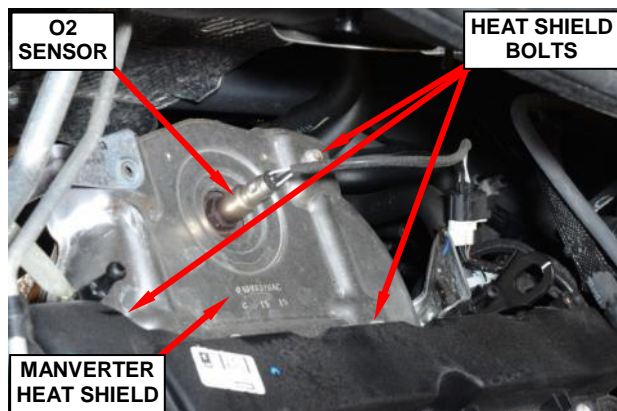

Figure 43 – Manverter Heat Shield
- a. Remove and discard the 1/1 upstream O2 sensor (Figure 43).
- b. Remove and save the remaining three heat shield bolts (Figure 43).
- c. Remove and save the heat shield (Figure 43).